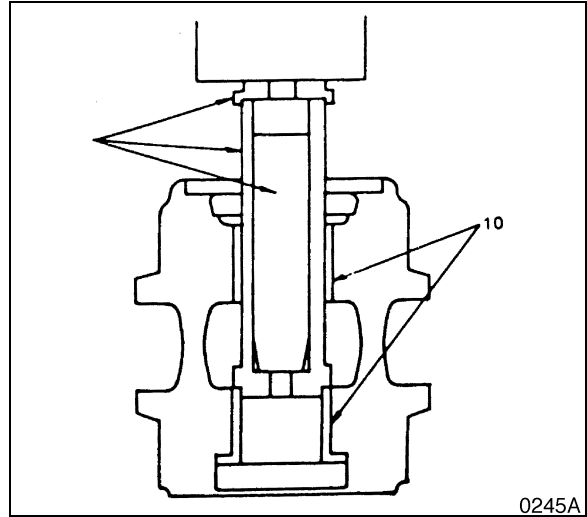

Figure 45
5. Separate bushing (10, Figure 45) from the roller with a press and special tool (ST-1919).